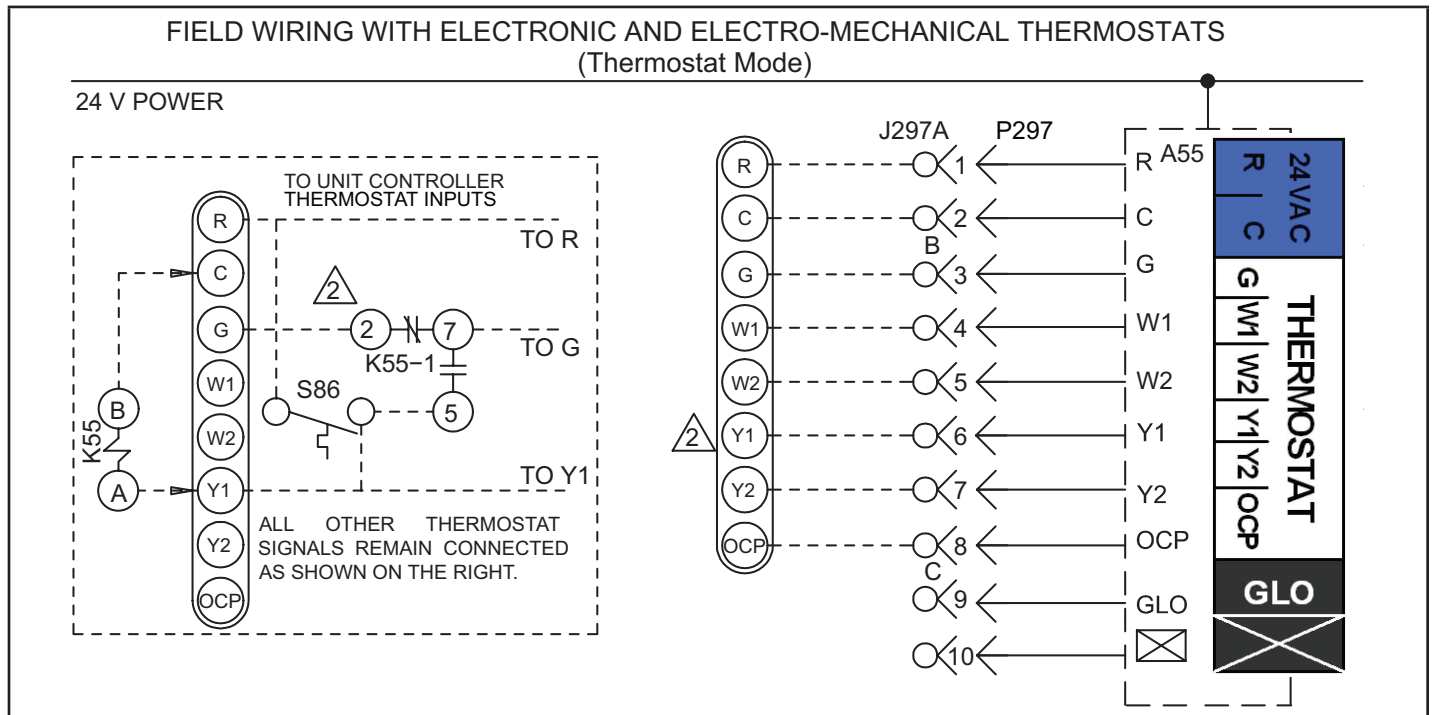

FIGURE 18
- 4 - Wire as shown in FIGURE 18 for electro-mechanical and electronic thermostats. If using other temperature control devices or energy management systems see instructions and wiring diagram provided by manufacturer.